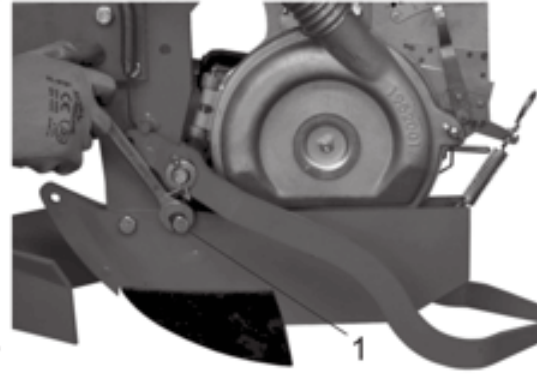

Fig. 12
2) Detach the bolt (1, Fig.12).